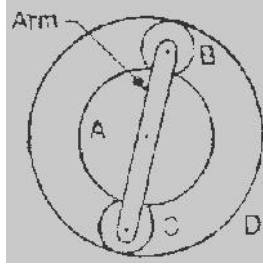

Fig.1
3. Two gear wheels mesh externally and are to give a velocity ratio of 3 to 1. The teeth are of involute form; module=6mm, addendum=one module, pressure angle= 20° . The pinion rotates at 90 rpm. Determine (1) the number of teeth on the pinion to avoid interference on it and the corresponding number of teeth on the wheel, (2) The length of path and arc of contact, (3) the number of pairs of teeth in contact, and (4) the maximum velocity of sliding. [JUNE2014]
5. The following data relate to a pair of 20° involute gear in module=6 mm, Number of teeth on pinion=17, Number of teeth on gear=49; Addenda on pinion and gear wheel=1 module. Find (1) the number of Pairs of teeth in contact (2) the angle turned through by the pinion and gear wheel when one pair of teeth is in contact, and (3) The ratio of sliding to rolling motion when the tip of a tooth on the large wheel (a) just making contact (b) Just leaving contact with its mating tooth, and (c) at the pitch point. [NOV2014]
7. A Compound gear train using spur gear is required to give a total reduction ratio of 250 to 1 in 4 steps. The modules of the gears are 5mm for the first step, 7mm for the second step, 10mm for the third and 16mm for the fourth. (i) Arrive at the individual speed ratios if a tolerance of $\pm 0.2\%$ is allowed in the total reduction ratio.(4), (ii) Find the number of teeth on all gears if minimum no of teeth on any pinion is 20. (4), (iii) Find the pitch diameters of all gears and centre distance. (4) (iv) Sketch a line diagram showing the gear train. (4) [NOV2012]
8. (i) In an epicyclic gear train, the sun gear A and the planet gear B are having 36 and 45 teeth respectively. If the arm rotates at 150 rpm counter clockwise about center of A which is fixed, determine speed of gear B. If the arm is locked and gear A rotates at 300 rpm what is the speed of gear B? (6)
(ii) An epicyclic gear train is shown in the figure 1. How many revolutions does the arm makes, (1) when A makes one revolution in clockwise and D makes $\frac{1}{2}$ a revolution in the opposite sense (2) when A makes one revolution in clockwise and D remains stationary. The number of teeth in gears A and D are 40 and 90 respectively. (10)